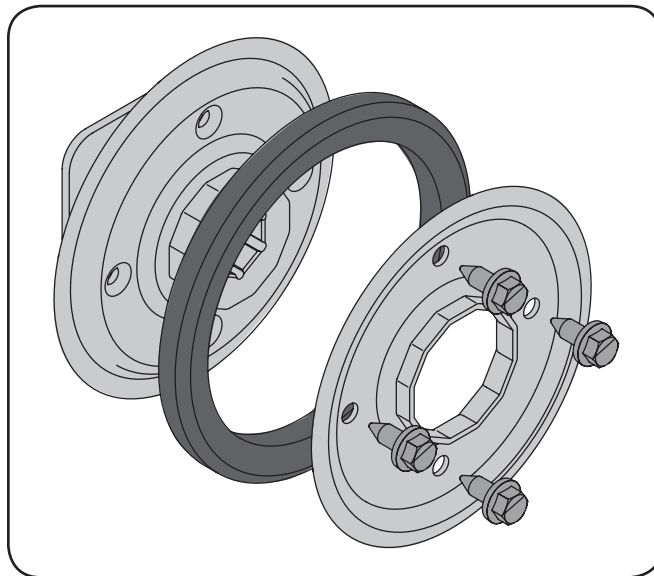

**Figure 7-10**
- Carefully position the hex shaft downward and to the left before carefully sliding the friction wheel assembly off the shaft. See Fig. 7-10.